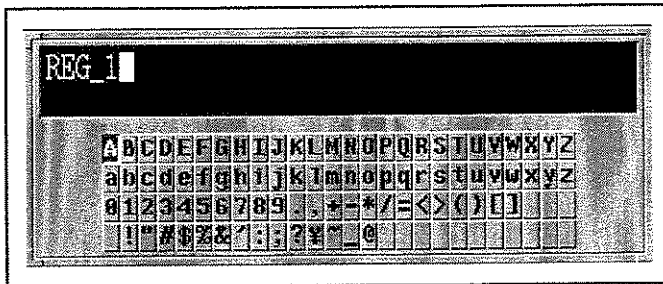

Figure 7-19 Label Window Display
- ① Press the [SAVE] to call the save menu. (Refer to section A.4.)
- ② Press the {SAVE REGISTER} to call the save register menu.
- ③ Press the {RENAME REG} to display the label window and calls the name editing menu.
- ④ Name editing menu
{EDIT NAME}	: Displays the label window (Figure 7-19) and calls the character editing menu. (See step ⑤.)
- ① Press the **[SAVE]** to call the save menu. (Refer to section A.4.)
- ② Press the **{STORE FILE}** to call the store file menu.
- ③ Press the **{NAME↑}**, **{NAME↓}** to select a desired file name.
- ④ Press the **{EDIT NAME}** to display the label window (Figure 7-19) and calls the character editing menu.
- ⑤ Character menu